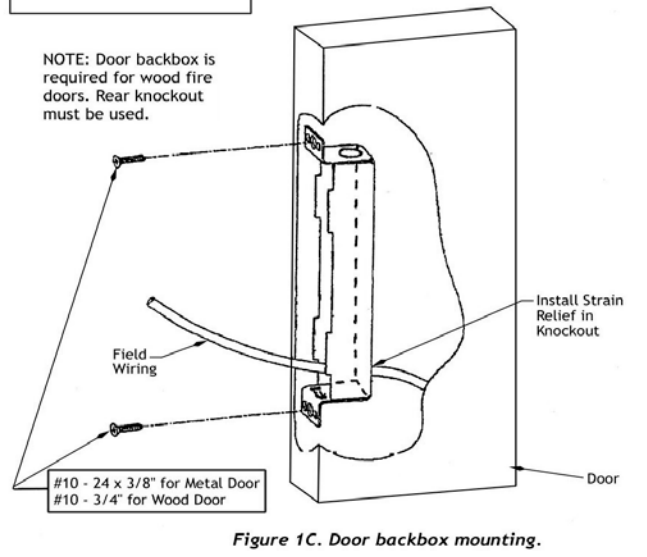

Figure 1C. Door backbox mounting.
- Mount door backbox to door using supplied screws as shown in Figure 1C.